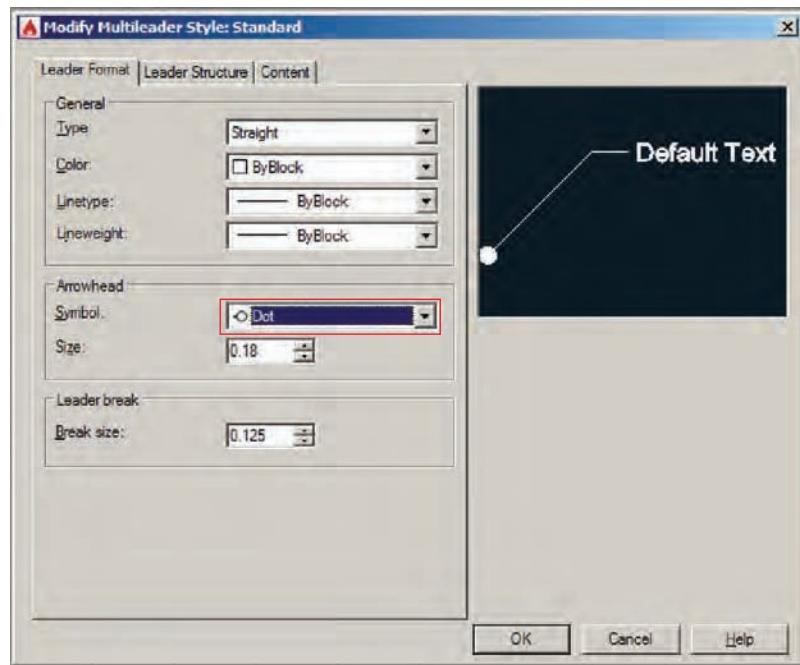

FIGURE 11.20 Editing a multileader style
3. On the Leader Format tab of the Modify Multileader Style: Standard dialog box, choose Dot from the Symbol drop-down in the Arrowhead section (see Figure 11.20). Click OK and Close, and the leader object automatically has a dot on its end.